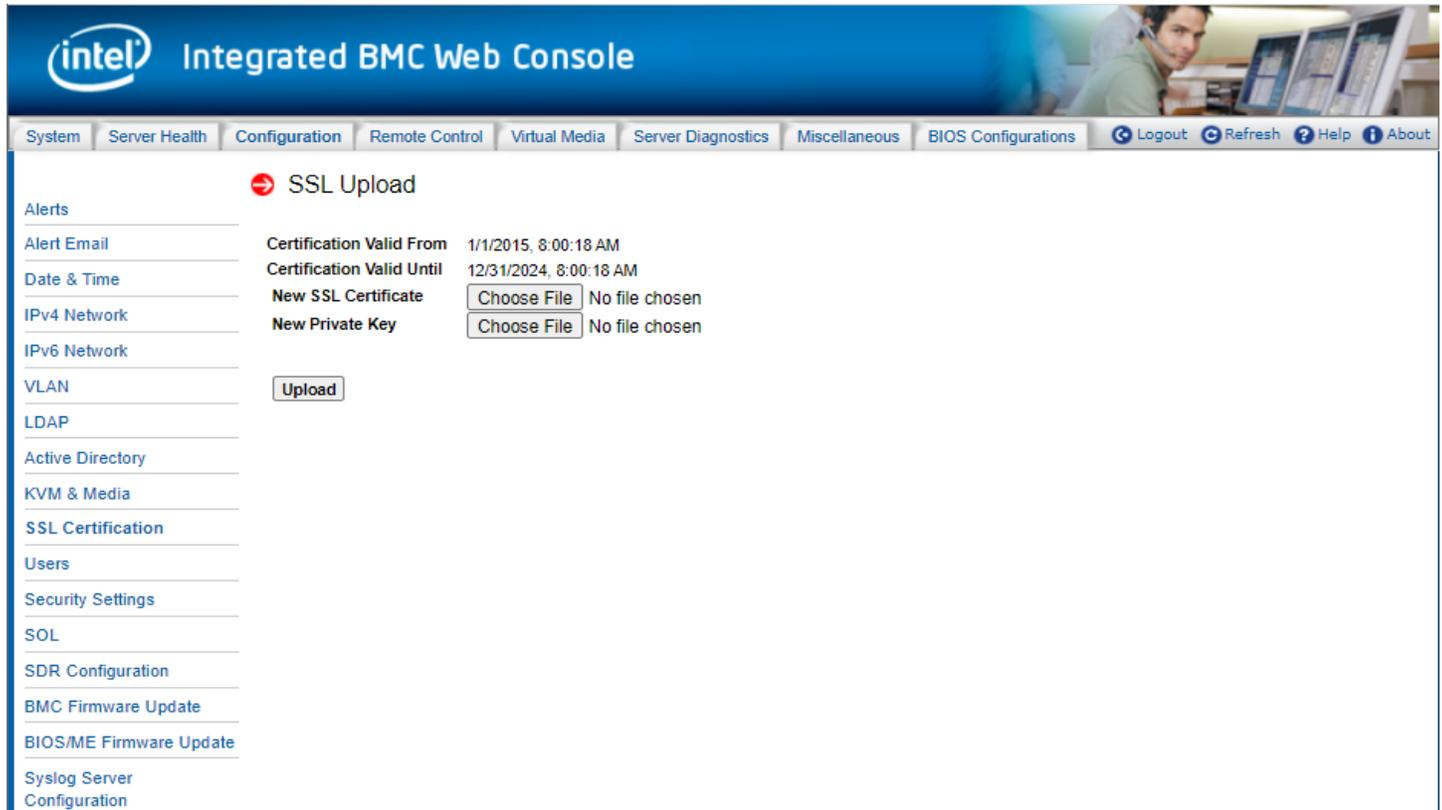

Figure 58. SSL Certification Page
The BMC generates a unique, self-signed SSL certificate when the server is first plugged into AC power. This default certificate is less secure than one signed by a Certificate Authority (CA). Uploading a CA signed certificate is recommended to allow client software to verify the authenticity of the BMC. Use this page to upload an SSL certificate and private key, which allows the device to be accessed in a secured mode. See Figure 58 for details.